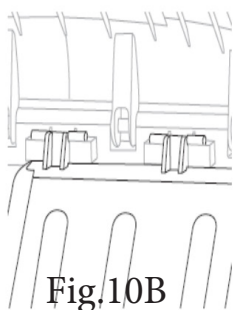
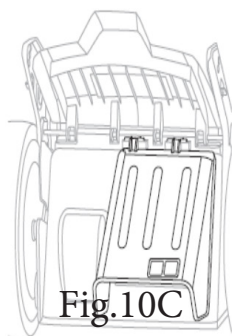

Fig.10B
Fig.10C
2. Fit the rear discharge chute into the relative holes, making sure it is securely in place.(Fig.10B/ Fig.10C)